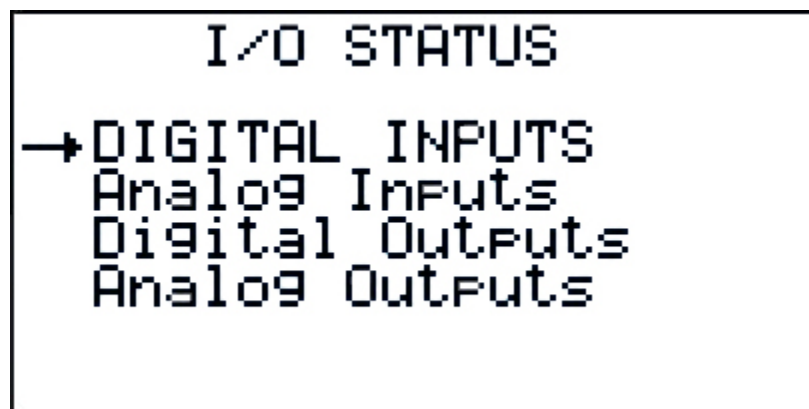

Figure 65
2.3.3.3 I/O Status (Figure 65)